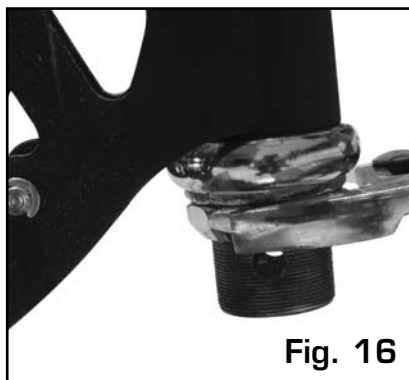

Fig. 16
3. Using 2 large adjustable wrenches, loosen both nuts (Fig. 16).